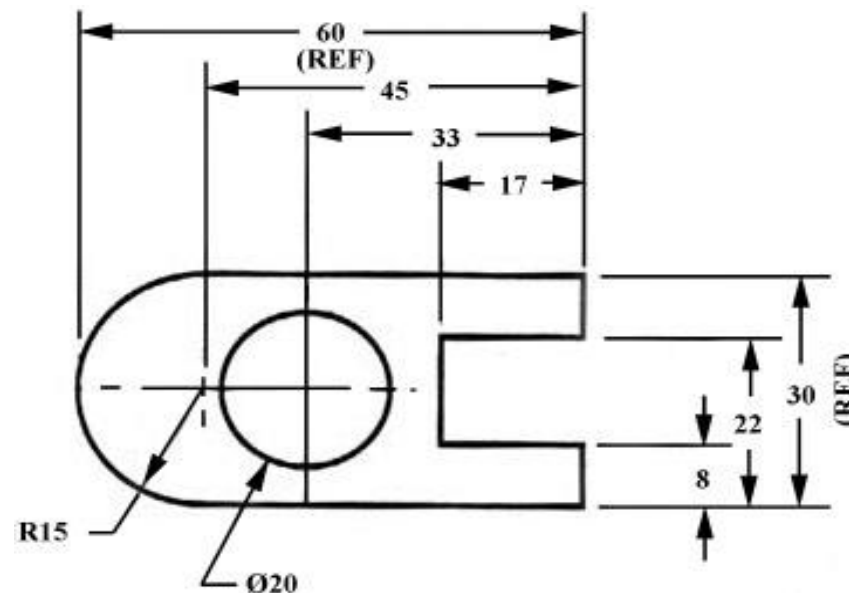

Figure 30 - Example of a directly dimensioned hole
- When the left side of the block is "radiuses" as in figure 30, we break our rule that we should not duplicate dimensions. The total length is known because the radius of the curve on the left side is given. Then, for clarity, we add the overall length of 60 and we note that it is a reference (REF) dimension. This means that it is not really required.